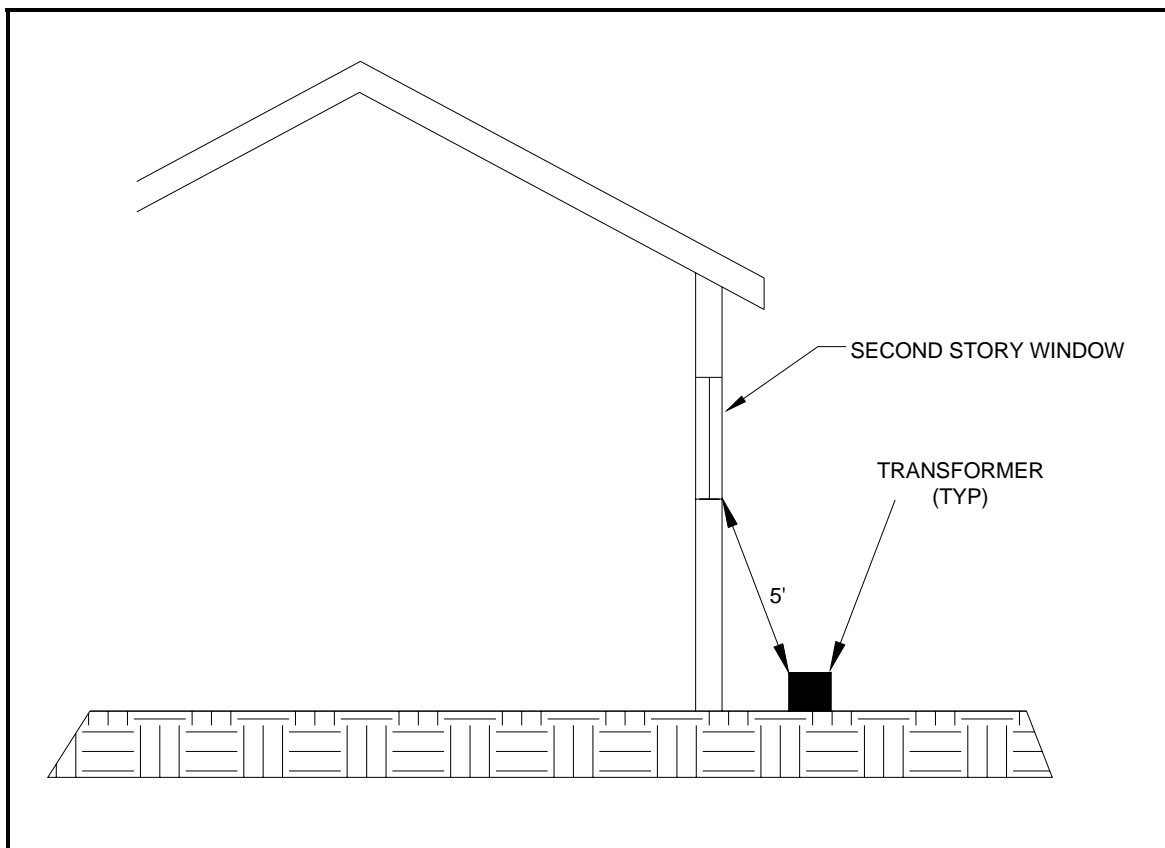

Figure 5 – Clearance From Second Story Window
- 2.4 For second story windows, the transformer shall not be located less than five feet from any part of said window. (See Figure 5)